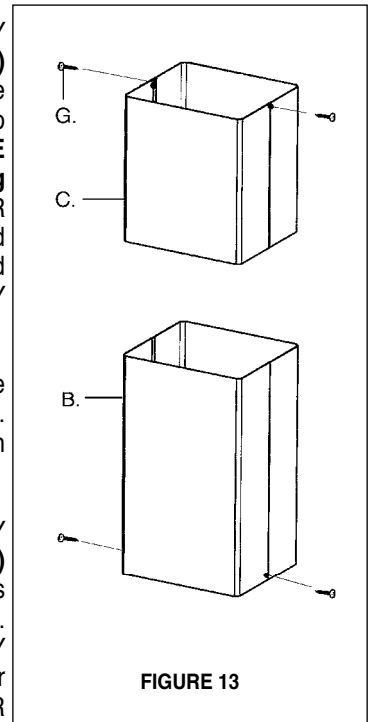

FIGURE 13
1. The UPPER CHIMNEY COVER (**C** in **FIGURE 13**) attaches to the top of the support structure using two screws provided (**G** in **FIGURE 13**). If using the **High Ceiling Chimney Kit**, use the UPPER CHIMNEY COVER supplied with the kit. Slide up and attach the UPPER CHIMNEY COVER.
3. The LOWER CHIMNEY COVER (**B** in **FIGURE 13**) attaches using two screws provided (**G** in **FIGURE 13**). Install the LOWER CHIMNEY COVER by sliding it up over the support and the UPPER CHIMNEY COVER.